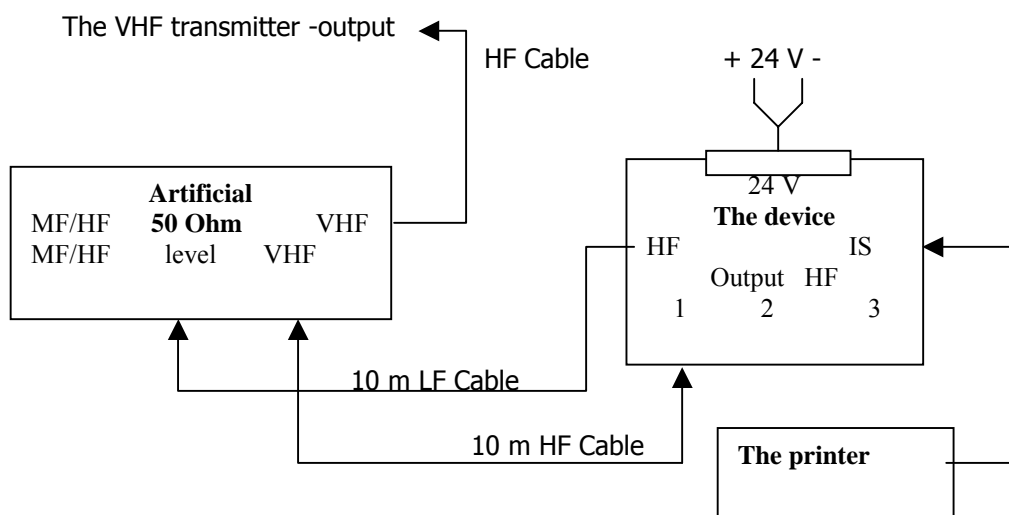

Fig.6.3.
6.4. Quality of the DSC message transfer, power of the transmitter, distortions made by the VHF path transmitter is checked under the block diagram of a fig. 6.3, connect the instead of the transmitting VHF antenna the 50 Ohm artificial by a cable HF 2m VHF